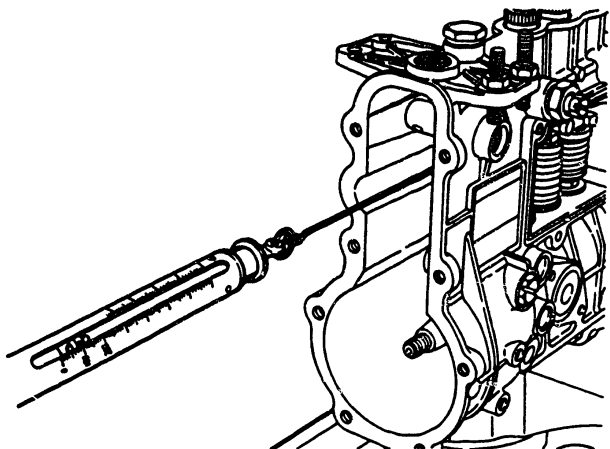

Fig. 82
13. Measure the resistance due to friction when the control rack is being extended from the position where it is fully inserted (Fig. 82)